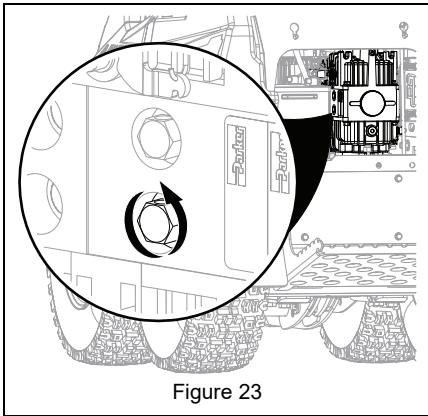

Figure 23
4. Turn lower bypass valve two complete turns counter-clockwise to the bypass position. See Figure 23.